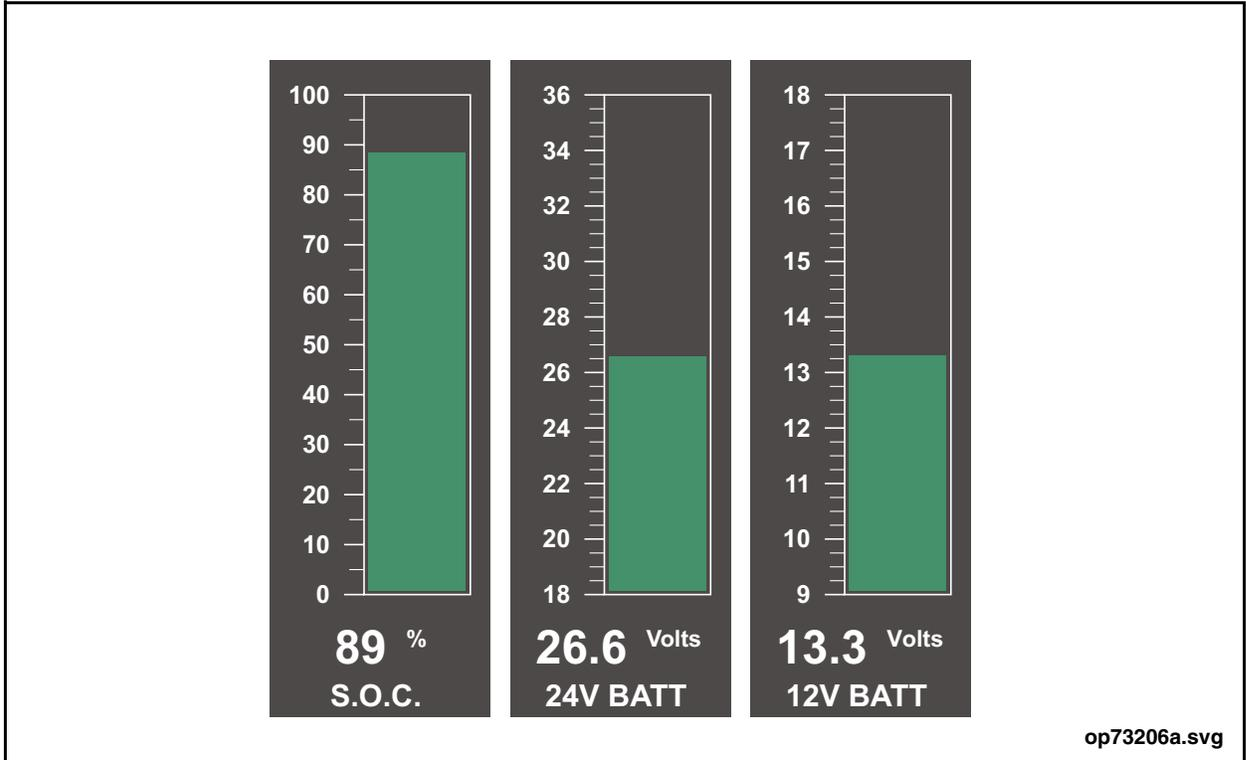

Figure 24: Function Readout Screen 1
- State of Charge - displayed on a bar graph as percentage of charge remaining in the entire Energy Storage System (ESS). The HV LOW BATT message appears when the state of charge drops to 20% or lower. See “Figure 24: Function Readout Screen 1” on page 65.
- Strings Connected (0-7) - The string connected gauge indicates the number of strings connected during vehicle operation. The HV Batt Fail message appears when strings are not connected. See “Figure 24: Function Readout Screen 1” on page 65.